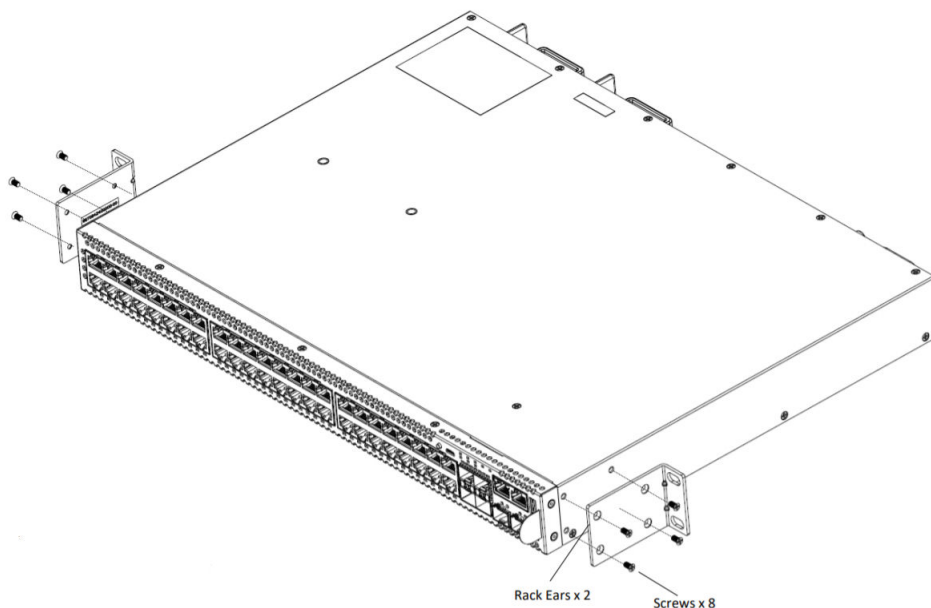

Figure 43: Mid-Mount: Attaching Short Mounting Brackets
- Figure 43 shows a mid-mount configuration using a short mounting bracket.